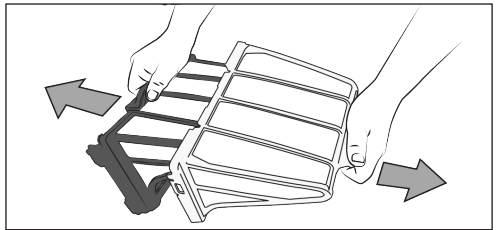

Figure 15. Remove Filter Canister
7. Remove the filter canister. See *Figure 15*.